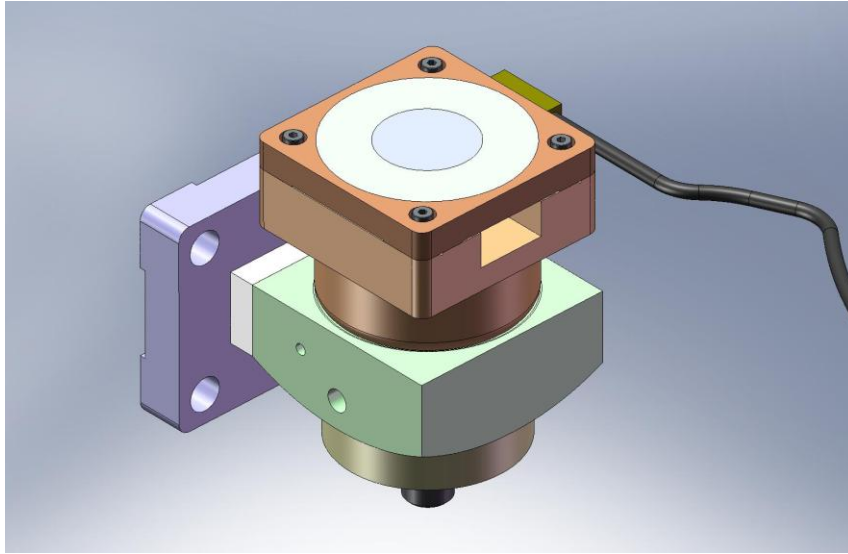
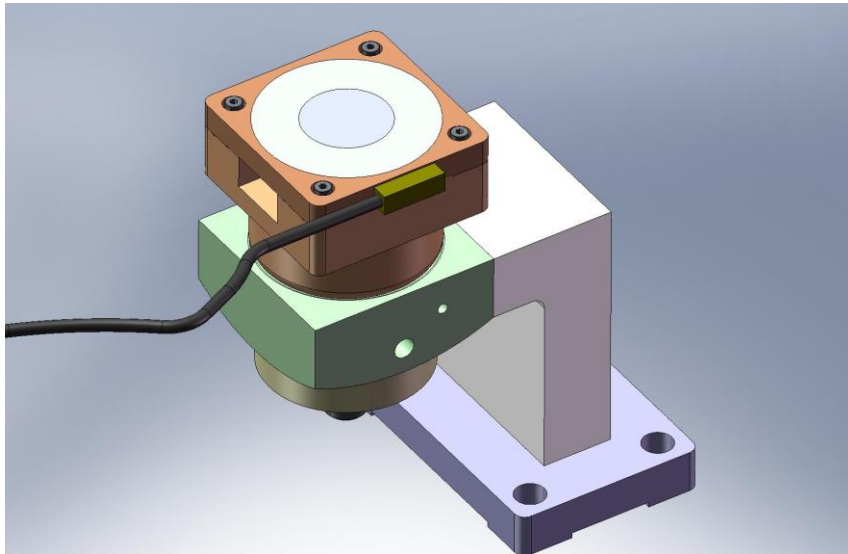

Figure 3.41. ADE sensor mounted in Horizontal Position Sensor Assembly. Note orientation of sensor cable.
Figure 3.42. ADE sensor mounted in Vertical Position Sensor Assembly. Note orientation of sensor cable.
- Mount ADE capacitance sensor to each of the (3) **Horizontal** and (3) **Vertical Position Sensor Assemblies**, as shown in Figure 3.41 and Figure 3.42, respectively. Use (2) precision washers under each screw head. The top of each screw should protrude slightly above the sensor face, to prevent crashing the **Sensor** into the **Target** (Figure 3.43).